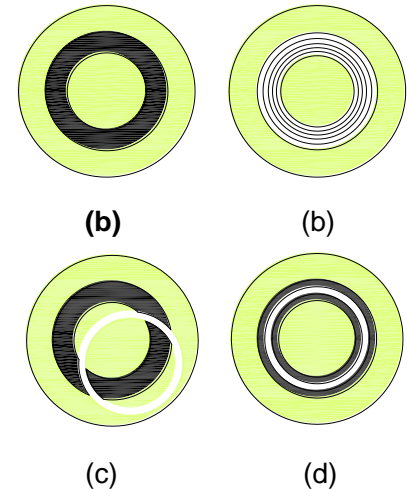

Fig. 21
- d. Observe from the telescope. The bright ring and dark ring should be coincided with each other as shown in **Fig. 21 (d)**.
- f. If the bright ring is still obscure as in **Fig. 21 (b)**, adjust the condenser focusing knob.
- g. If the two ring images are not coincided as shown in **Fig. 21 (c)**, adjust the two centering screws on the phase contrast condenser.
- c. Loosen the condenser lock thumb screw as shown in Fig. 21; take off the original condenser from the holder.